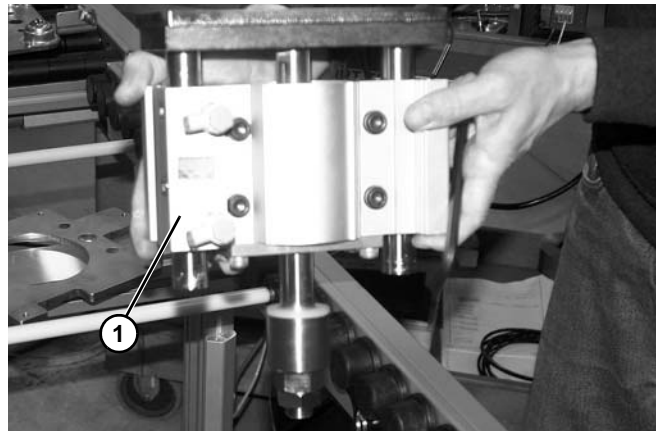

Figure 110
14. Remove lift cylinder (**Figure 110, item 1**).